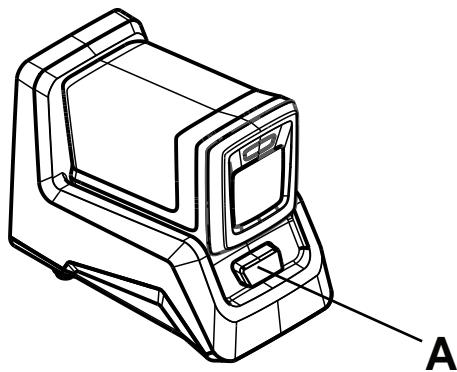

Figure 38 – Charging the battery
2. Press the battery release button (A) and slide the charged battery out of the charger (Figure 38).